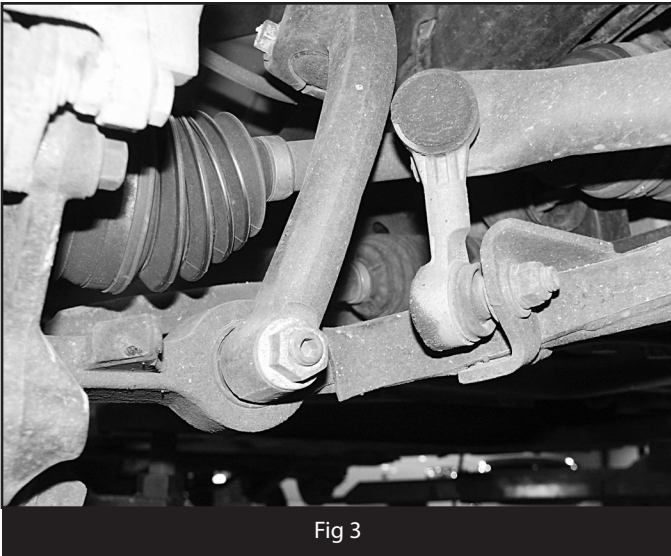

Fig 3
6. Remove the nut that mounts the strut to the lower control arm (Fig. 3). Retain nut.